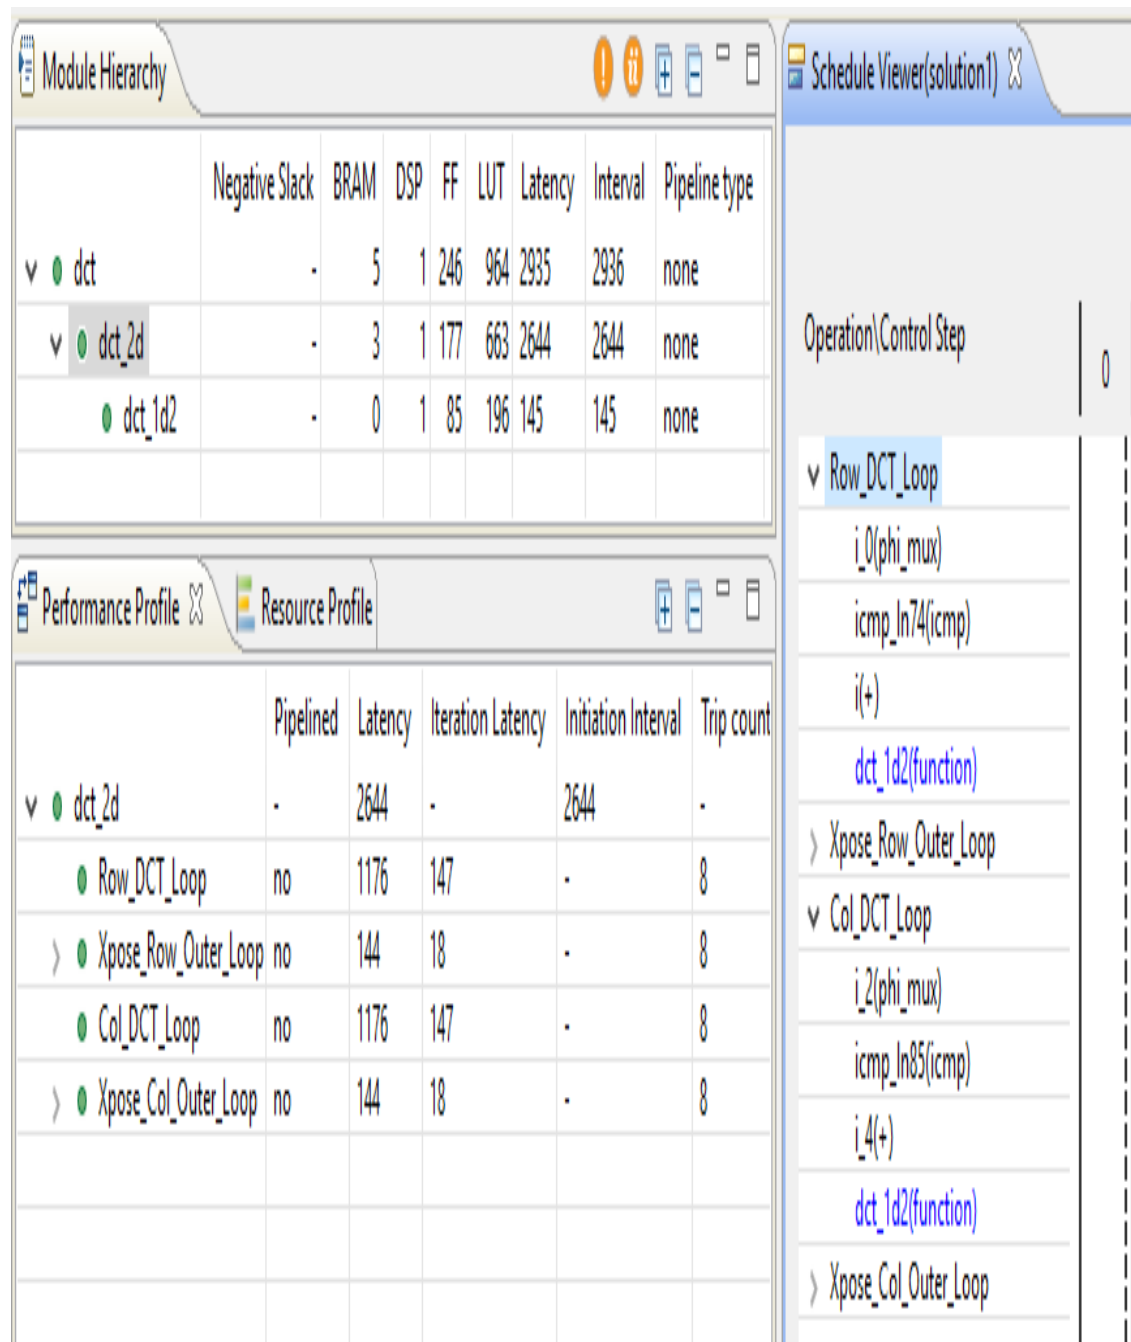

Figure 6-11: DCT_1D Performance View
Again, you can see a number of loops (shown in Figure 6-11). Loops ensure the design will have small area but the design will take multiple iterative states to complete: each iteration of the loop will complete before the next iteration starts.
7. Click loops **Row_DCT_Loop** and **Col_DCT_Loop** of the dct_2d block in the performance viewer to fully expand them, as shown in Figure 6-11.
9. Expand the loops in the **Performance Profile** and **Performance** view to see the view shown in Figure 6-11.
In Figure 6-11 you can see a series of nested loops (Row_DCT_loop, Col_DCT_Loop) that can be pipelined.